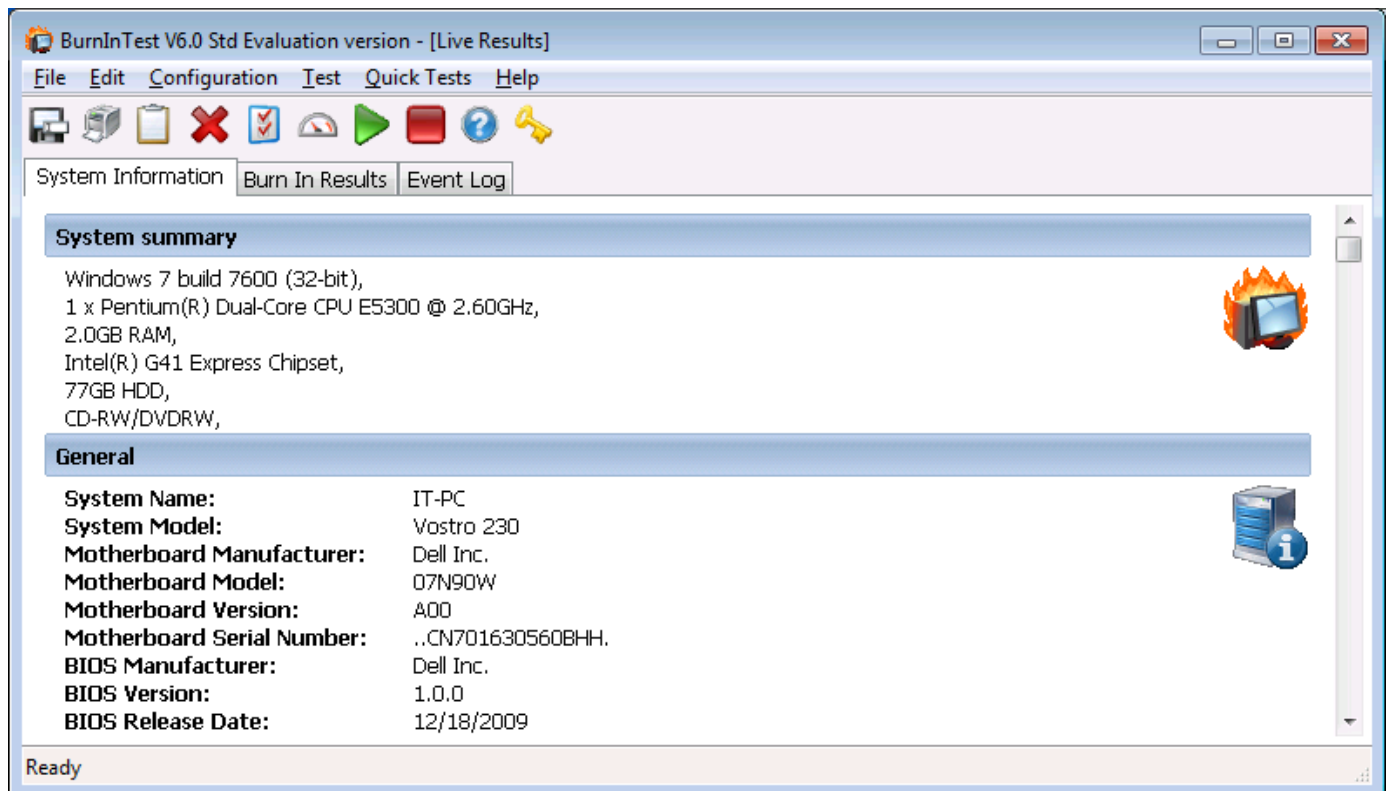

Figure 5.8
1. Go to the “Burn-InTest” window (Fig.5.8).